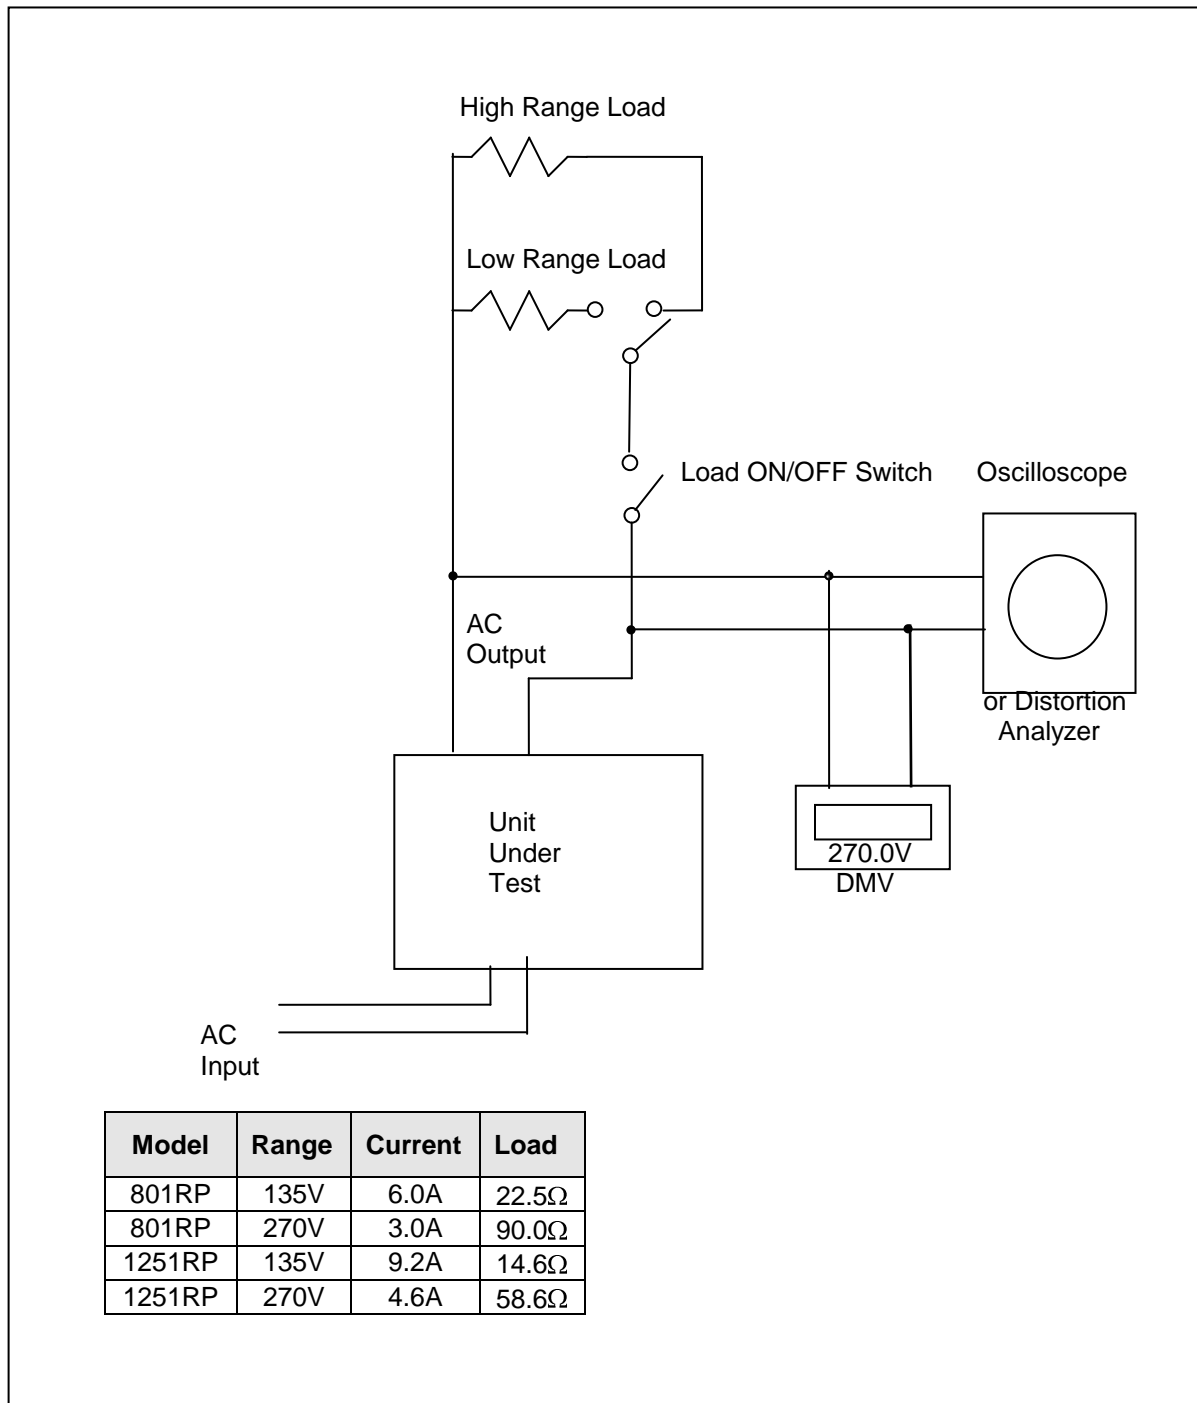

Figure 3-3: Functional test setup
Refer to Figure 3-3 for the test set up.
6. Apply full load (refer to table on Figure 3-3) to the output of the source and verify the output remains within 2% of the initial 135 volt value. The output should still be clean and the distortion should still be less than 1% at 60 Hz.
8. Repeat steps 4 through 7 but set the output for the following: Hi voltage range and the current limit to maximum value. The output load should be connected to the Hi range output connector. The load value is shown in Figure 3-3, for the 270 volt output.